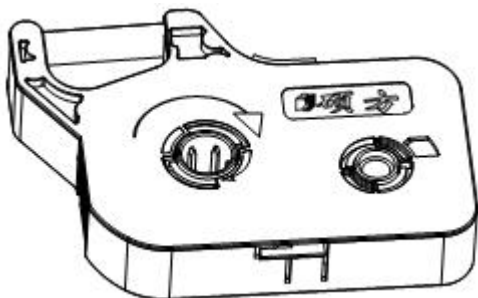

Figure 1 Tighten the Ribbon
- (1) See Figure 1. Tighten the ribbon according to the direction of arrow on ribbon cassette so as to open and flat.
- (2) Put the print head in a non-printable position.